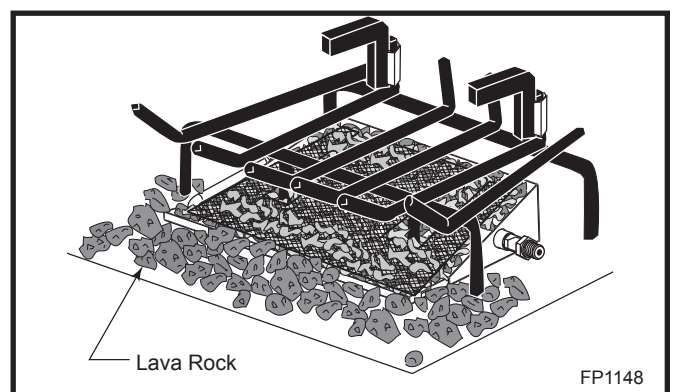

Fig. 11 Place lava rock on fireplace hearth for decoration.
5. Spread lava rock onto fireplace hearth around the burner pan for decorative purposes. (Fig. 11)